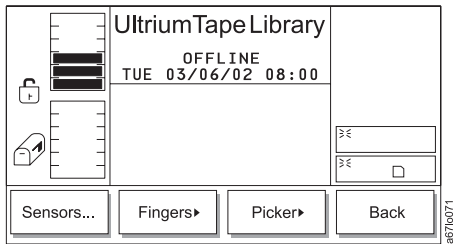

Figure 4-163. Diags Submenu
- Press the button below the **Diags** softkey. The Diags Submenu displays (see Figure 4-163 on page 4-93).